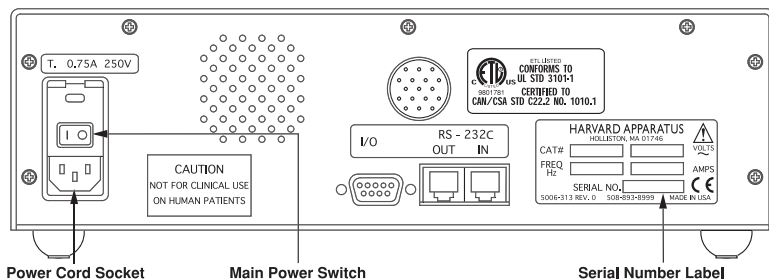

Figure 2a. Rear Panel: Power Entry and Serial Number Label
4. Turn on main power switch (see Figure 2a) located directly above the power cord receptacle on the rear panel. The two-line display will illuminate indicating that the power connections are correct. The flashing display indicates that power has just been applied. Pressing any key will reset the blinking display to constant illumination .